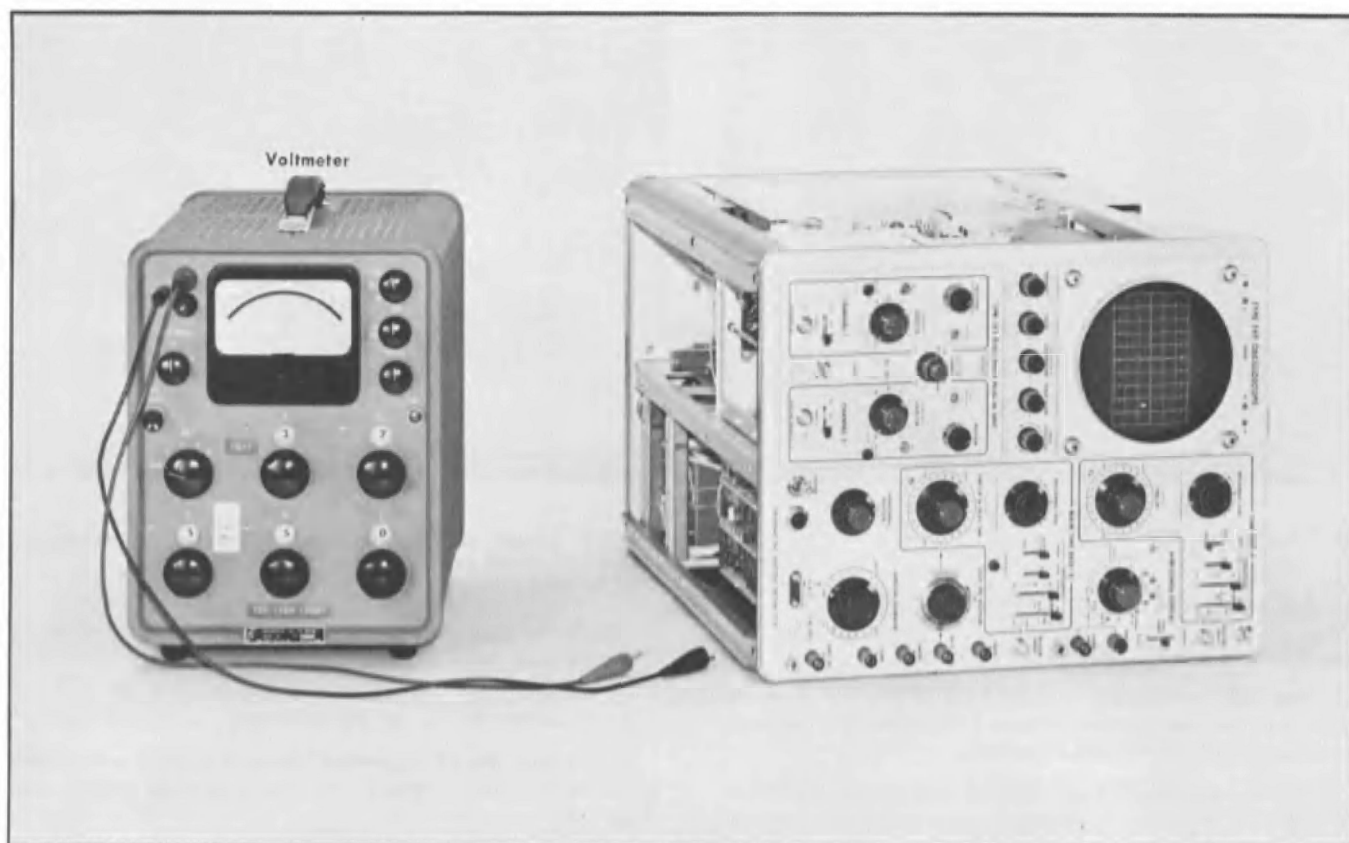

Fig. 7-3. Initial equipment setup for steps 1 through 4.
①
- Equipment setup is shown in Fig. 7-3.